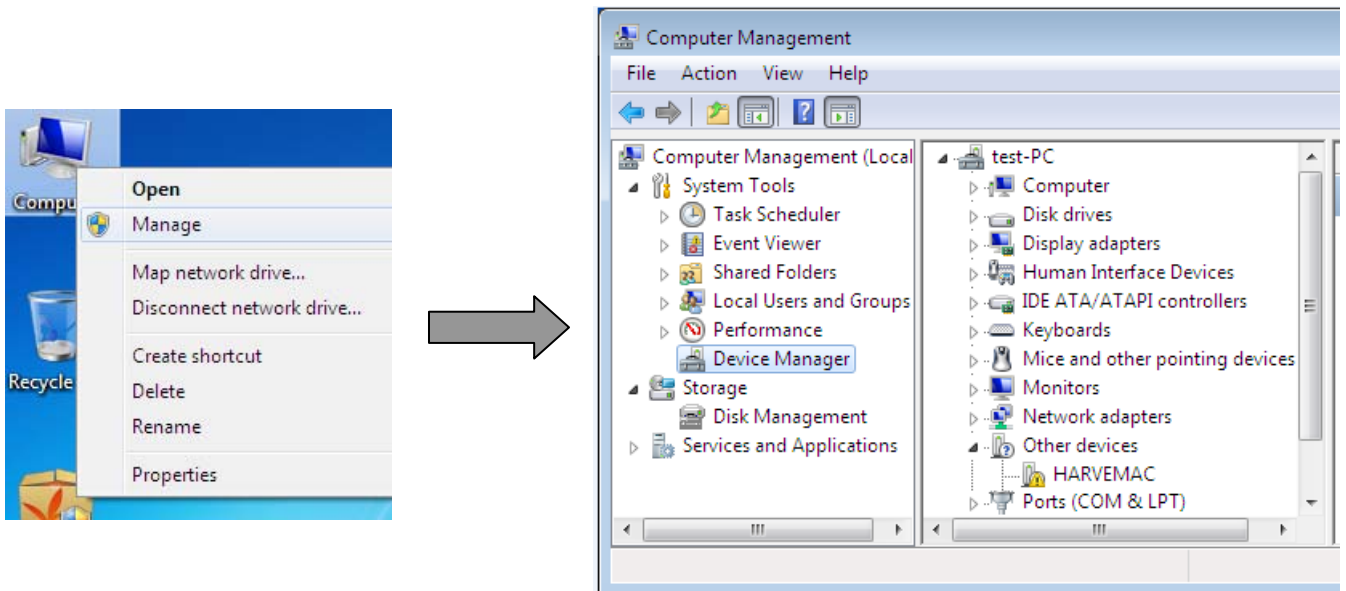
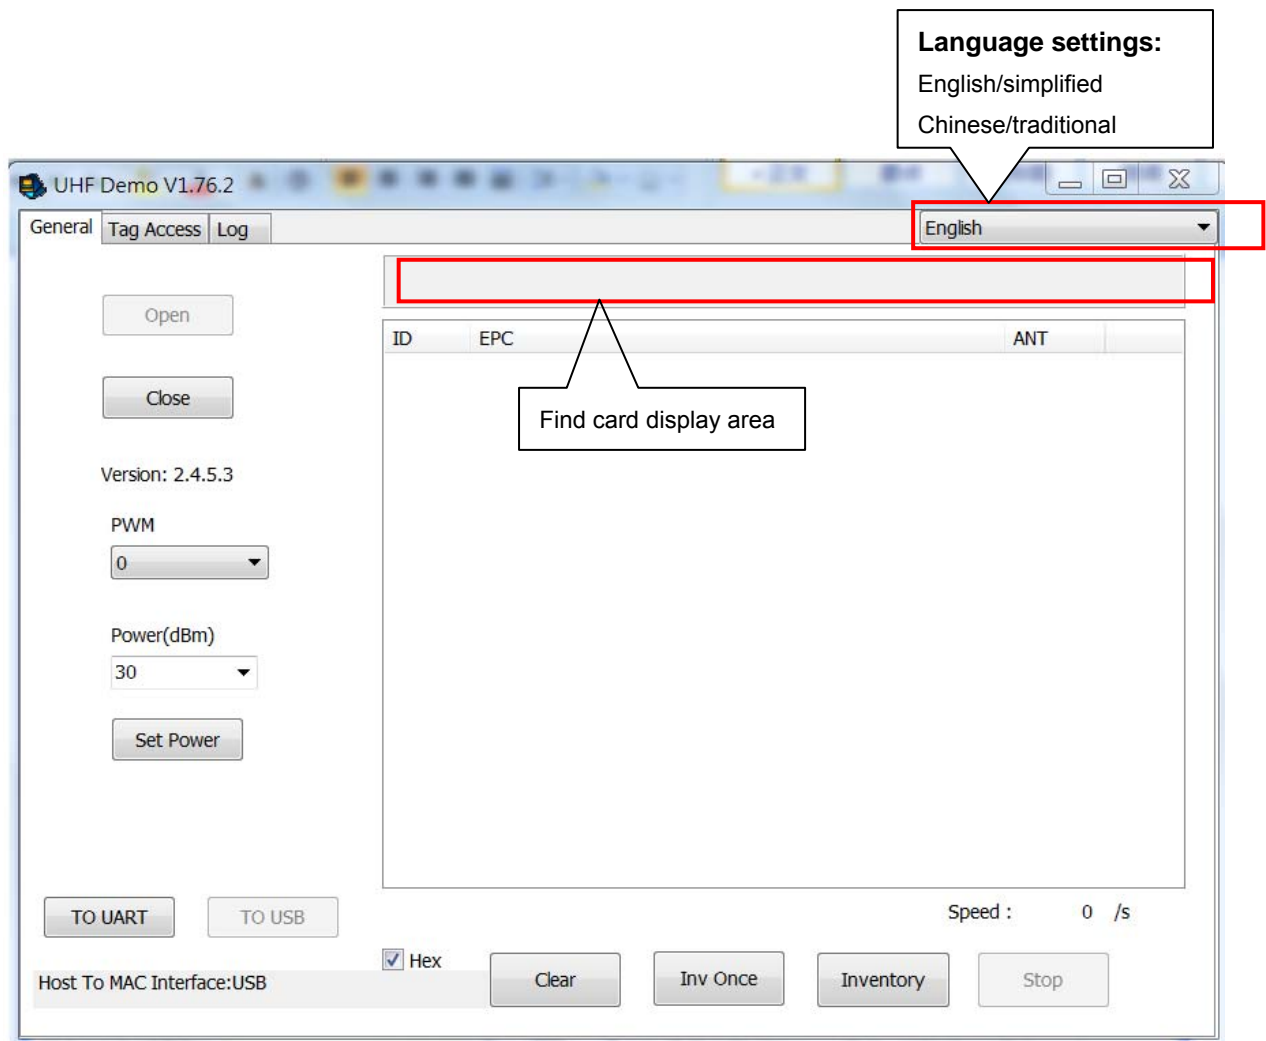

Figure 2.1
Figure 2.6
1. Right click on the “my computer” choose “**management**” options → click “Device Manager” and click on the “other devices” drop-down box; As shown in figure2.1:
5. After setting the “COM”, click in the interface is shown in figure 2.1“  UHFDemoV1.76.2.exe”software; Into the following basic operation is shown in figure 2.6 interface: